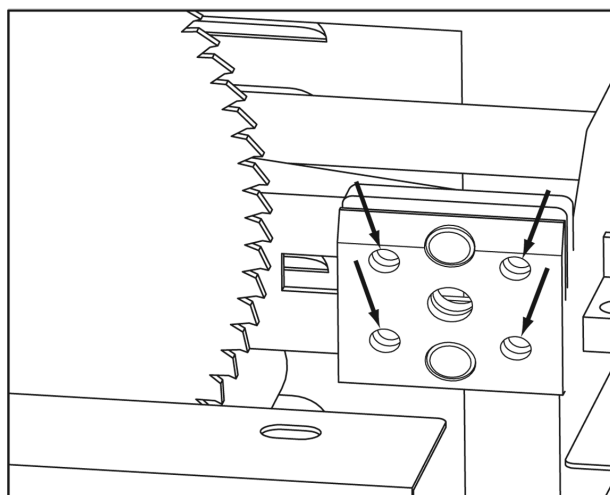

Fig.17 (set screw for adjusting riving knife)
6. Use the set screws shown in Figure 17 to adjust the riving knife bracket and re-install the riving knife.